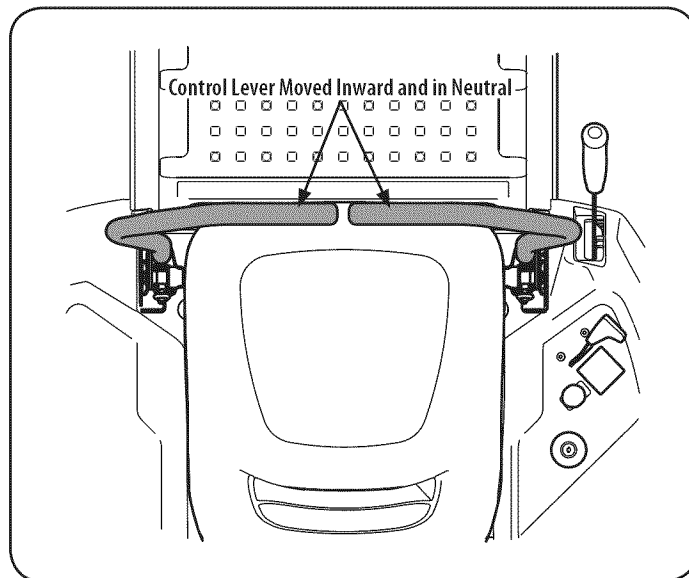

Figure 12
2. Move the RH and LH drive control levers inward in the neutral position. Refer to Figure 12.